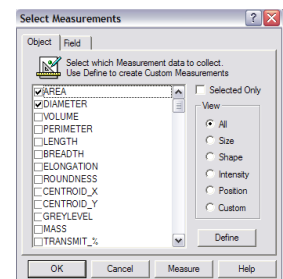

fig.22
6. Click **Measure** in the **Task** toolbar. Check **Area** and **Diameter** (fig.22). Click **OK**.